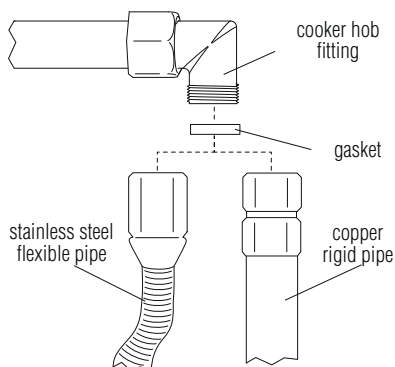

Fig. 6: connection to the gas supply network
**The connection to the gas supply network can be completed using rigid copper piping or with a continuous flexible steel pipe on the wall, according to established regulations that are parts of the regulations in force [Fig. 6]. In any case every pipe connected to the gas supply network must be equipped with a safety interception valve.**